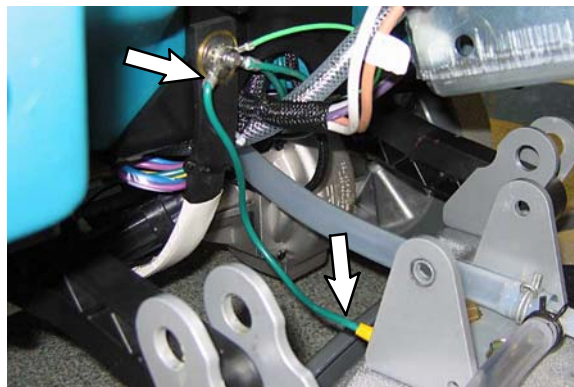

Fig. 3
3. Attach the green ground wire from the machine to the scrub head assembly as shown (Figure 3).